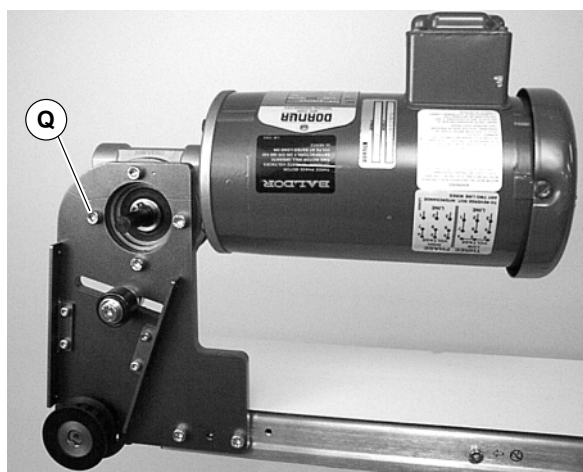

Figure 14
4. Remove four (4) gear reducer mounting screws (Q of Figure 14). Remove gearmotor.
12. Install gearmotor to mounting bracket and tighten screws (Q of Figure 14) to 12 Nm.